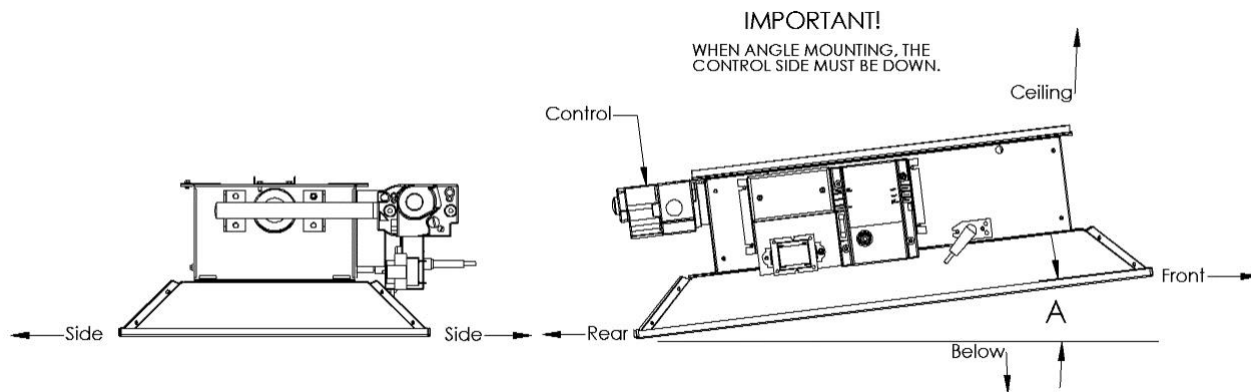

Fig. 2
3.1.3. The appliance must be suspended with its manifold axis horizontal, but may have the axis at 90° to the manifold either horizontal (10° - ERP40/45) or at an angle of up to 35° (maximum) from the horizontal, as shown in Fig. 2. below.